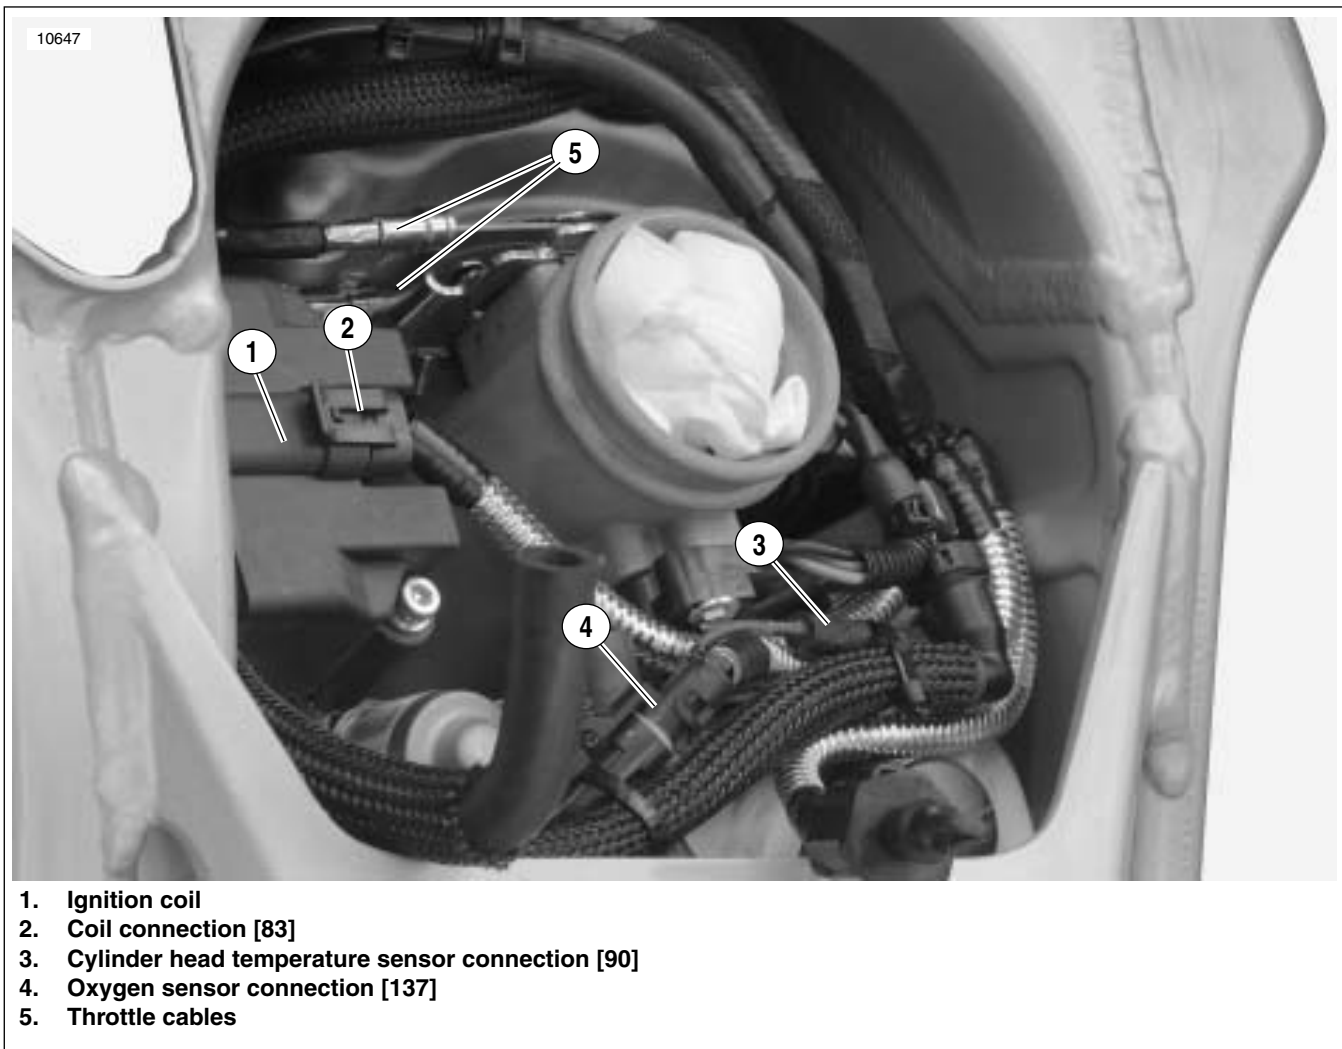

Figure 3-17. Electrical Connections and Throttle Cables (Typical)
8. See Figure 3-17. Disconnect the ignition coil (2) and remove.
- a. Temperature sensor [90] (3).
- b. Oxygen sensor [137] (4).